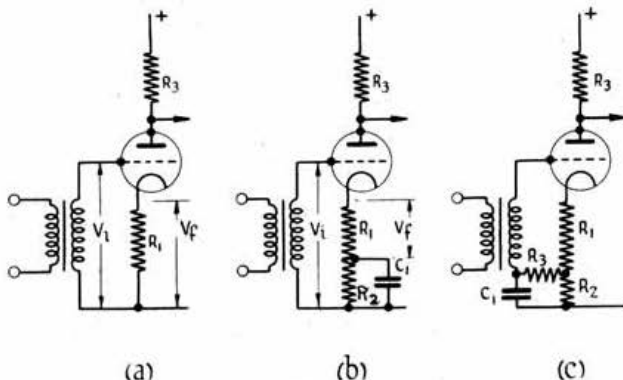
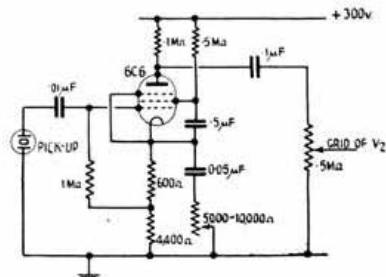

Fig. 3.
Fig. 10.
One of the simplest forms of circuit is that shown in Fig. 3 (a). An independently heated triode is given a cathode resistance in the manner usually adopted for providing grid bias, except that the condenser which is normally connected from cathode to earth is omitted. This resistance  $R_1$  can be considered as being in series with the anode load  $R_3$ , although the anode supply appears between them. The anode load current therefore flows through it.  $R_1$  corresponds, therefore to the resistance  $r_0$  in Fig. 2 (b). (See Part I.) The A.C. component of the anode current produces across  $R_1$  a voltage drop of  $V_f$  which is the feedback voltage and is in series with  $V_i$  across the grid and cathode of the valve.
amplification factor of the valve itself. If the triode in Fig. 3 (a) has an amplification factor equal to  $\mu_0$  and an anode impedance of  $R_a$ , then
The use of an unbypassed bias resistance as in Fig. 3 (a) limits the value of  $R_1$ , and hence the amount of feedback in use, to that required for correct biasing. If less feedback than this is required, part of the cathode resistance can be bypassed by a condenser as in Fig. 3 (b). Here, the condenser  $C_1$  short circuits the A.C. voltages across  $R_2$  and hence the feedback resistance, consists of  $R_1$  only although the bias resistance comprises  $R_1 + R_2$ .
more feedback is required than is provided in Fig. 3 (a). To do this the circuit in Fig. 3 (c) can be used. In this arrangement the total cathode circuit resistance of  $R_1$  and  $R_2$  is the feedback resistance, while the grid bias is tapped off  $R_1$  only (which should be made equal to the normal bias resistance) through a resistance  $R_3$  which is made high compared with  $R_2$ . The condenser  $C_1$  is proportioned so that its reactance at the lowest frequency of interest is much larger than  $R_3$ . This effectively connects the lower end of the input transformer to the bottom of  $R_2$  for the A.C. signal frequencies. In this way the A.C. voltage introduced into the grid circuit is that developed across  $R_1 + R_2$  while the D.C. voltage applied to the grid is that dropped across  $R_1$  only.
Such circuits can be used when the grid is driven from a resistance or choke coupled circuit equally well as from the transformer coupled circuit shown in Fig. 3.
As drawn, there is some additional feedback in the first valve also, due to the unbypassed cathode resistance which acts as in Fig. 3.
increases at low frequencies. Fig. 10, which is reproduced from an article by C. Coates in the R.S.G.B. BULLETIN for October, 1942, (13) illustrates an amplifier for a piezo-electric pick-up. The response characteristic of the pick-up was known to fall at the higher frequencies, and the design of the amplifier is therefore such as to introduce more feedback at low than at high frequencies. The feedback impedance is connected in the cathode circuit as in Fig. 3 (c) and consists of a fixed 5,000 ohms resistance shunted by a condenser of  $0.05 \mu F$  in series with a resistance variable from 5,000 to 10,000 ohms.